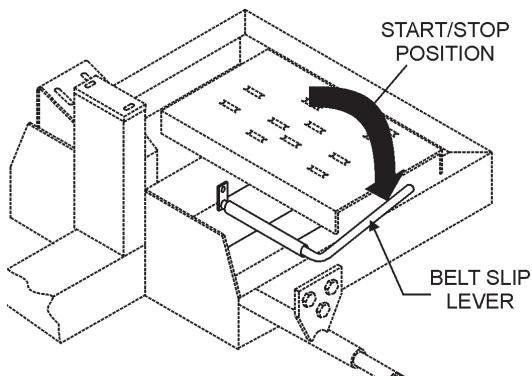

Figure 16. Belt Slip Lever (Start/Stop Position)
6. Place the **belt slip lever** (Figure 16) in the **START/STOP** (disengaged) position.